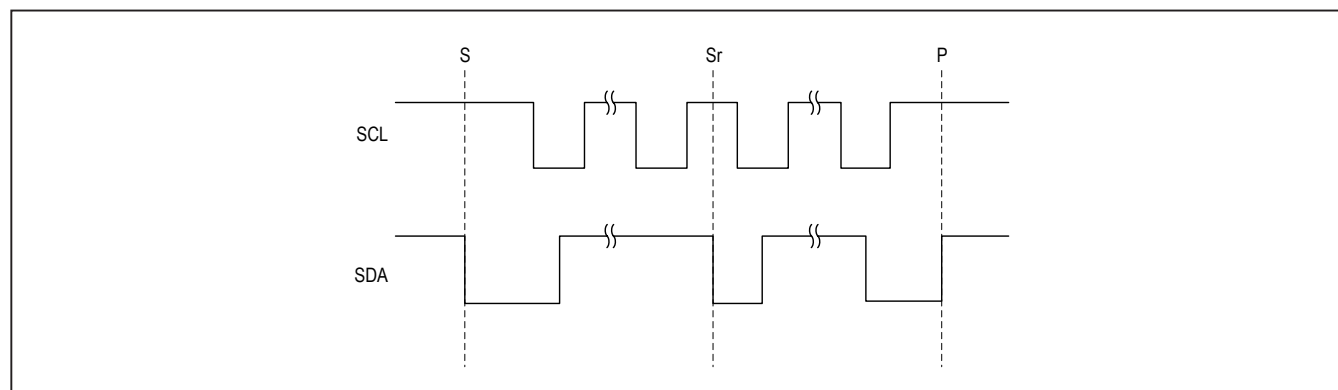

Figure 3. START, STOP, and Repeated START Conditions
A master device initiates communication by issuing a START condition. A START condition is a high-to-low transition on SDA with SCL high. A STOP condition is a low-to-high transition on SDA while SCL is high (Figure 3). A START (S) condition from the master signals the beginning of a transmission to the IC. The master terminates transmission, and frees the bus, by issuing a STOP (P) condition. The bus remains active if a Repeated START (Sr) condition is generated instead of a STOP condition.